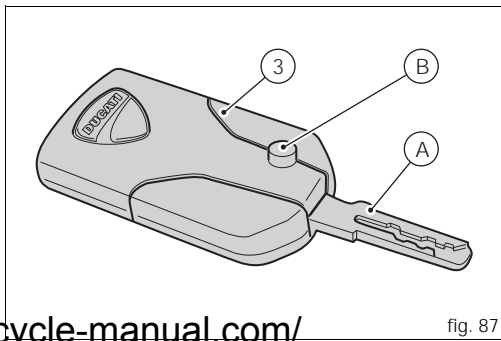

fig. 87
The metal part (A) of the key (3) remains hidden inside its housing, it exits by pressing the button (B, fig. 87).
With the vehicle in Key-On and "engine off", if the presence of the active key (3, fig. 87) is not detected for thirty consecutive seconds, the motorcycle will turn off automatically without any action by the rider.